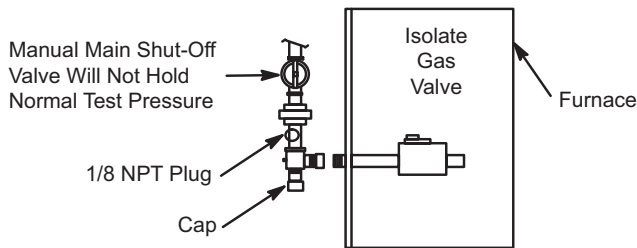

Figure 21.
When pressure testing gas lines, the gas valve must be disconnected and isolated. Gas valves can be damaged if subjected to more than 0.5psig (14" W.C.). See **FIGURE 21**. If the pressure is equal to or greater than 0.5psig (14"W.C.), close the manual shut-off valve before pressure testing to isolate furnace from gas supply.
- 1 - Measure the AC voltage between Line Neutral (spade terminals) and "C" terminal (low voltage terminal block) on the integrated control. See **FIGURE 21**. A wide variation in the voltage between Line Neutral and "C" as a function of load indicates a poor or partial ground. Compare the readings to the table below. If the readings exceed the maximum shown in **TABLE 15**, make repairs before operating the furnace.